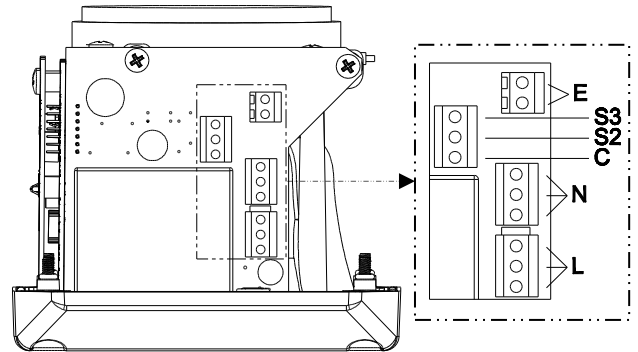
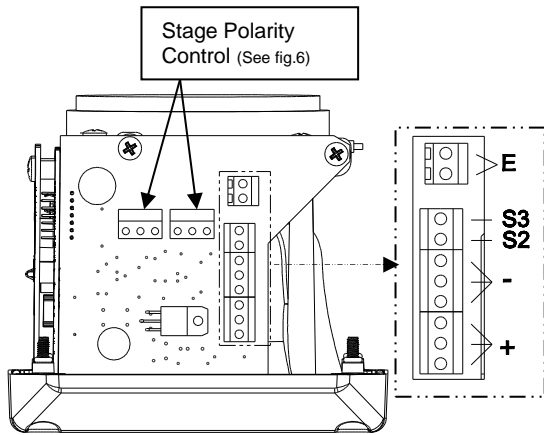

Fig. 5 AC Terminals
Fig. 8 DC Terminals
as shown in section 9 and fig 8 (DC) or section 8 fig 5 (AC) of this manual. The power supply terminals are duplicated so that alarm horns may be connected in parallel and for DC units only an end of line monitoring resistor may be fitted. If the second M20x1.5 entry is not used a suitably rated, certified stopping plug must always be fitted.
Stage one (S1) operation: Simply connect the supply voltage to the L and N supply terminals (See fig. 5).
Stage one (S1) operation: Simply connect the supply voltage to the + and - supply terminals (See fig. 8).
Internal earthing connections should be made to the internal earth terminal on the PCBA, (please see fig 8 for DC, fig 5 for AC). The earth conductor should be at least equal in size and rating to the incoming power conductors. The internal earth bonding wire connects the PCBA earth terminal to the internal earth terminal in the enclosure back box.